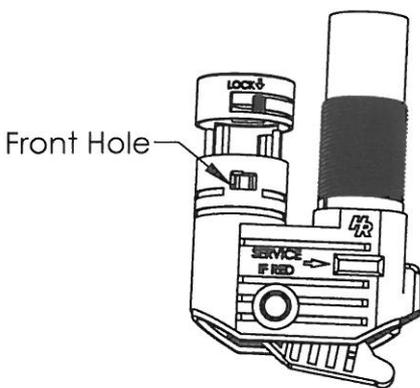

Figure 1
1. Align lock ring with inflator. Fig. 1